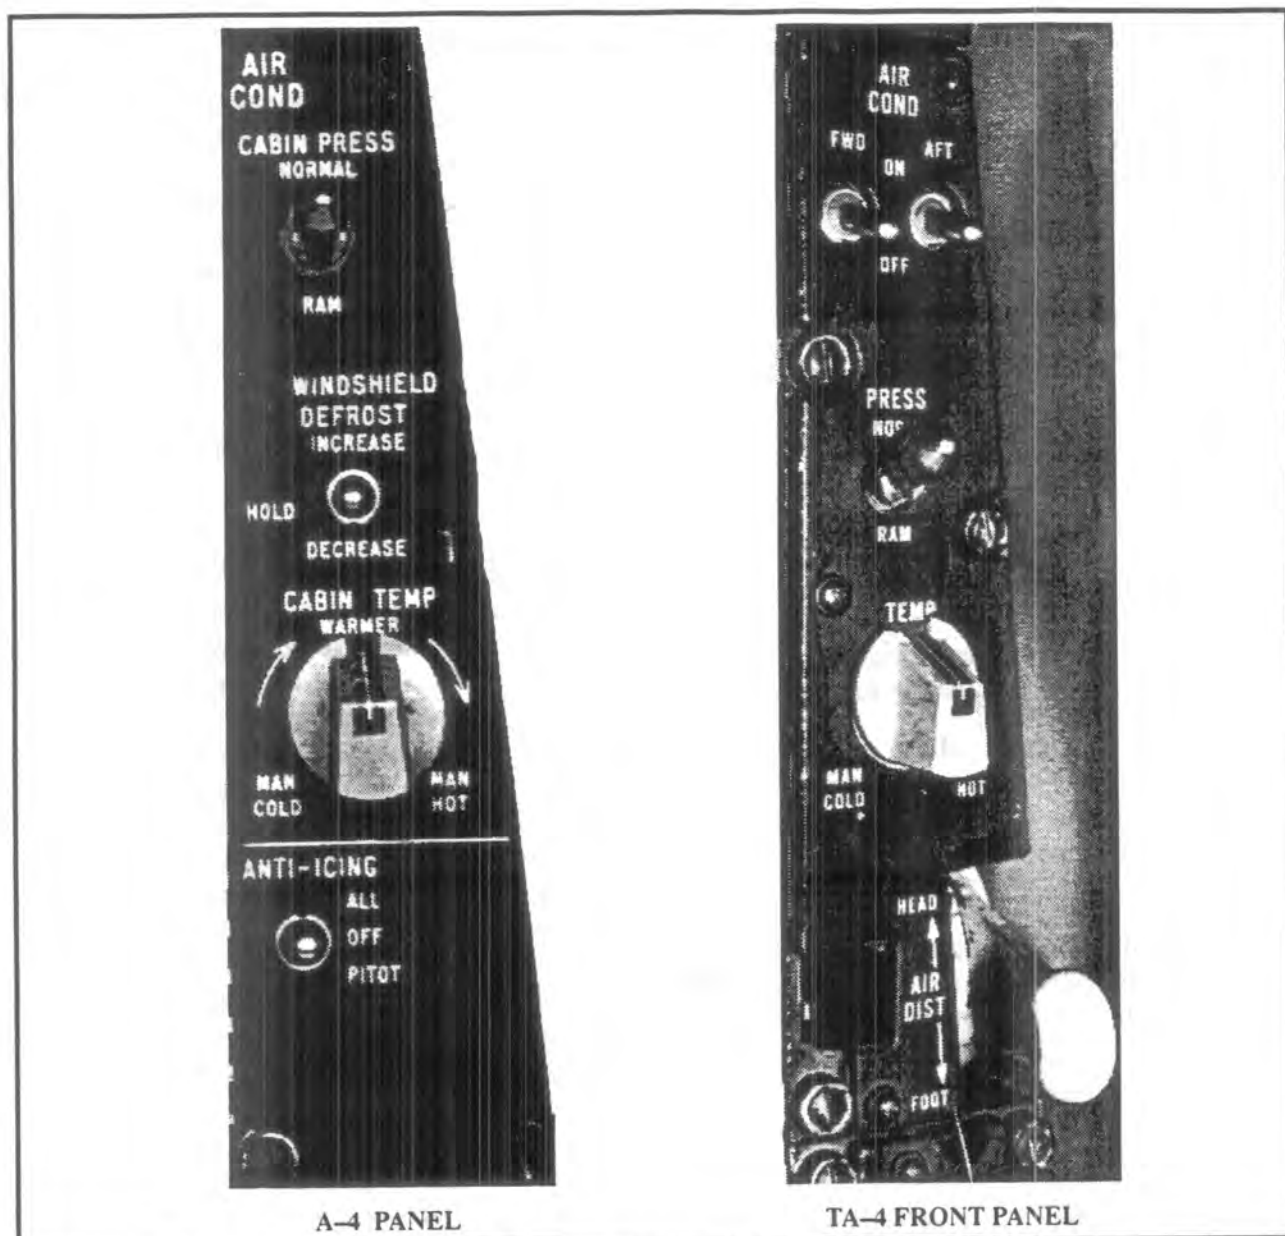

Figure 1-43 A-4 & TA-4 Air-conditioning Wedge Panels
1.306 A combination air conditioning and pressurization system heats, cools, ventilates, and pressurizes the cockpit. The system comprises of an air cycle refrigeration unit, a cockpit pressure regulator, pressure relief valves, and temperature control components. A separate identical system is provided for the rear seat of the TA-4. Control panels vary slightly between A-4 and TA-4 as shown in Figure 1-43.
1.313 The air conditioning control panel in the forward cockpit is located outboard of the right hand console and is shown in Figure 1-43. It contains two AIR CONDITIONING switches, a PRESSURIZATION switch, TEMPERATURE controller, and the AIR DISTRIBUTION lever. The air conditioning control panel in the rear cockpit is located outboard of the right hand console. The panel contains the rotary CABIN TEMPERATURE control knob and an AIR DISTRIBUTION lever.
1.317 The air conditioning control panel is located outboard of the right hand console and is shown in Figure 1-43. It contains a CABIN PRESSURIZATION switch, a rotary CABIN TEMPERATURE control knob, and a three position WINDSHIELD DEFROST switch.